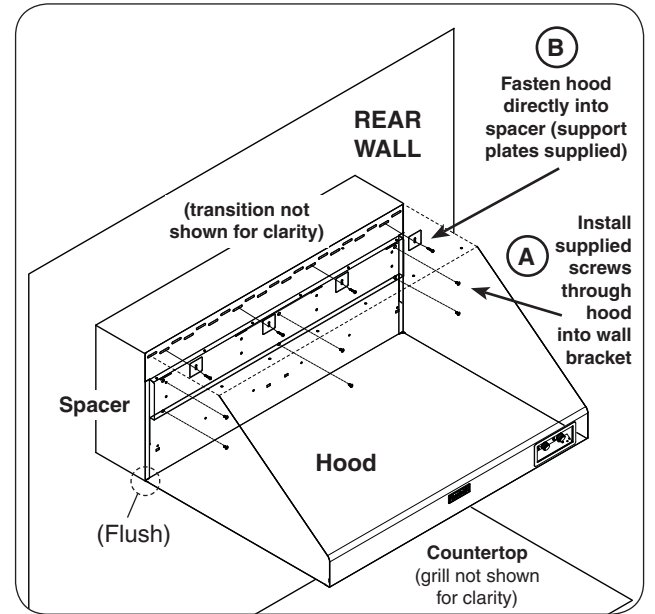

Fig. 14-2 Secure vent hood (42" shown)
2. Ensure the sides, top, and bottom of the vent hood sit flush with the spacer (see Fig. 14-2). (The spacer will already be finished with any applicable substrate, to allow for the vent hood to rest flush.)
3. From the inside of the vent hood; fasten the hood to the bracket using a medium Phillips screwdriver and the 1/4-20 screws supplied with the vent hood (that were originally removed at beginning of installation). See Fig. 14-2, Detail A.
4. From the inside of the vent hood, using appropriate mounting hardware for the spacer construction; secure the top portion of the hood directly into the spacer. Use the supplied support plates when fastening, see Fig. 14-2, Detail B.